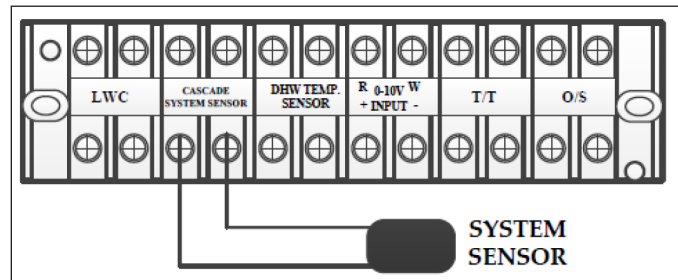

Figure 41 - Wired System Sensor
NOTE: The maximum distance between units is two and a half feet. See Figure 41. This maximum distance can be increased by connecting additional wire harnesses together. However, the number of units that can be cascaded will be reduced by one for every additional harness used.
2. Connect the system sensor to the Master low voltage terminal strip. See Figure 41. Thermostat / outdoor sensor / 0-10V must be connected to the Master only.